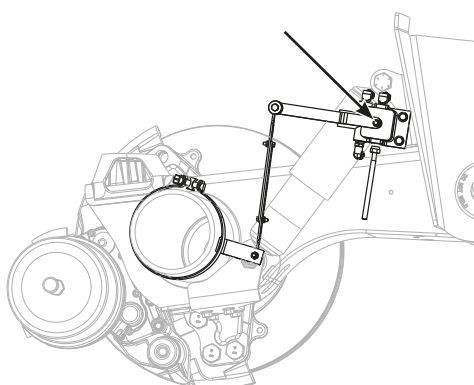

Figure 11: Axle Tube Clamp
- Fixed to the axle tube (Refer to Figure 11)